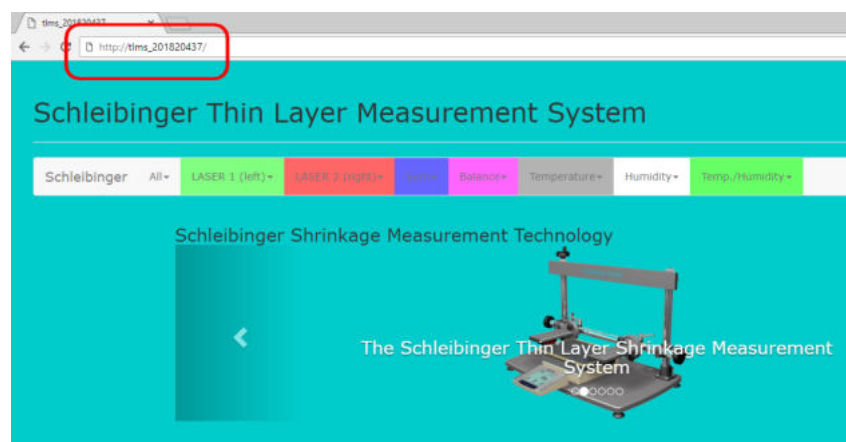

Figure 6: Accessing the data logger with a symbolic server name.
- Enter the host name into the address line of your browser in a form "**http://...**" (Fig. 6.)
A DHCP-Server assigns a free IP address to the data logger. You can access the data logger via the default host name using the DNS (Fig. 6).